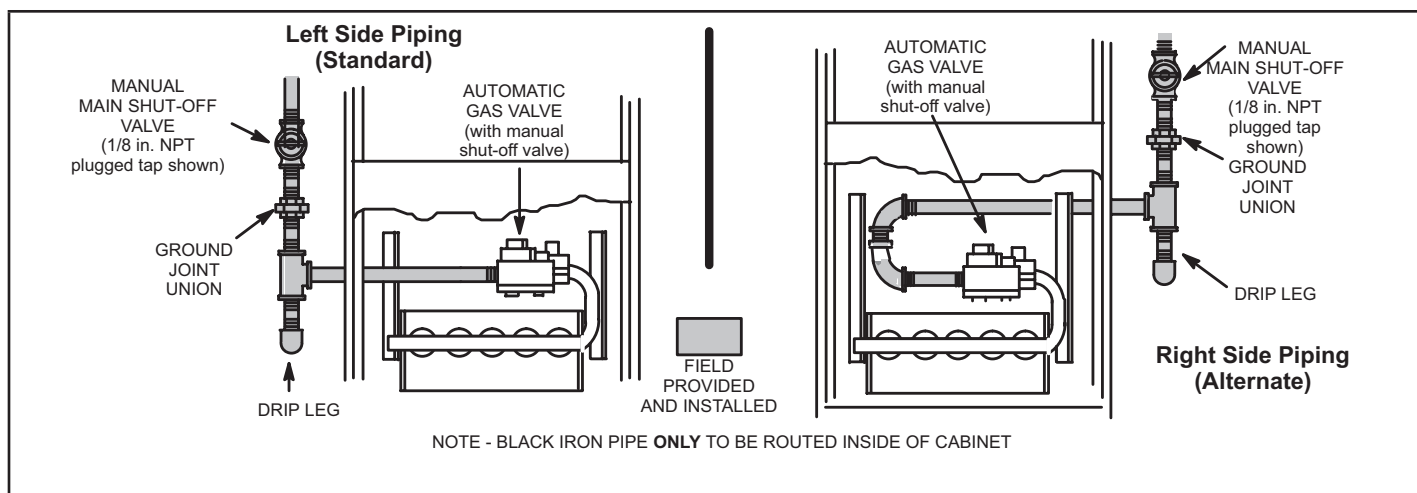

FIGURE 56
- 1 - Gas piping may be routed into the unit through either the left- or right-hand side. Supply piping enters into the gas valve from the side of the valve as shown in FIGURE 56. Connect the gas supply piping into the gas valve. The maximum torque is 800 in lbs and minimum torque is 350 in lbs when attaching the gas piping to the gas valve.
- 3 - Gas piping must not run in or through air ducts, clothes chutes, chimneys or gas vents, dumb waiters or elevator shafts. Center gas line through piping hole. Gas line should not touch side of unit. See FIGURE 56.